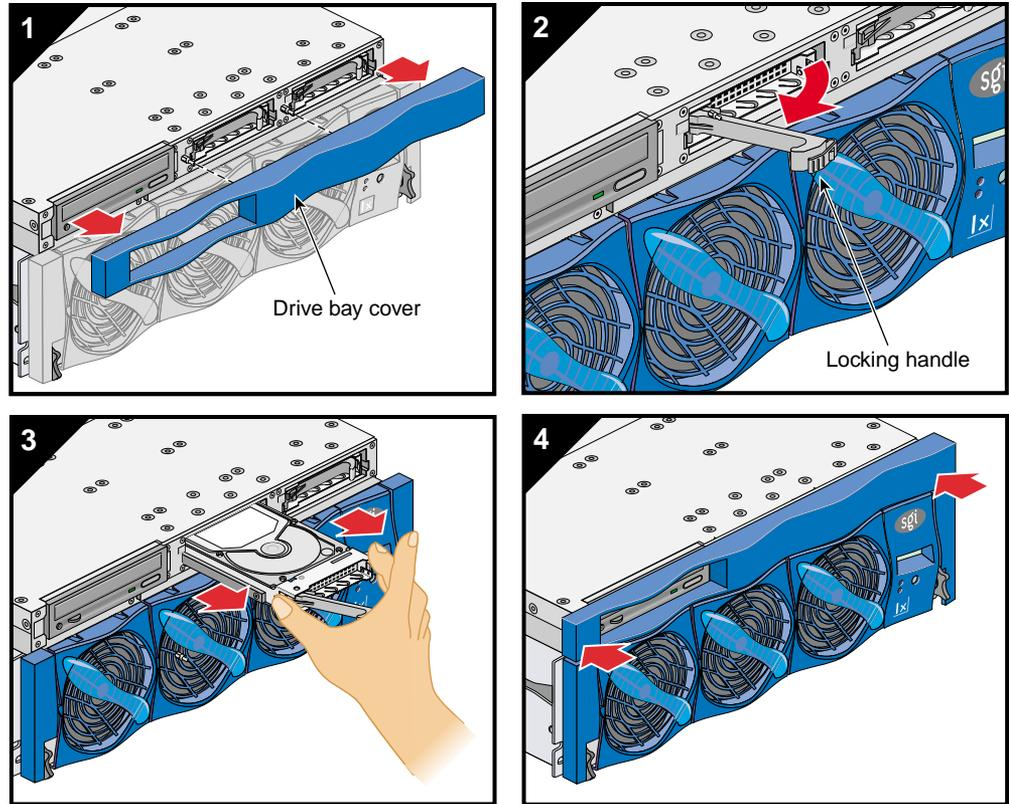

Figure 14-12 Removing SCSI Disk Drive
To remove a SCSI disk drive, follow these steps (see Figure 14-12):
1. Remove the drive bay cover to access the two SCSI disk drive bays, as shown in panel 1 of Figure 14-12.